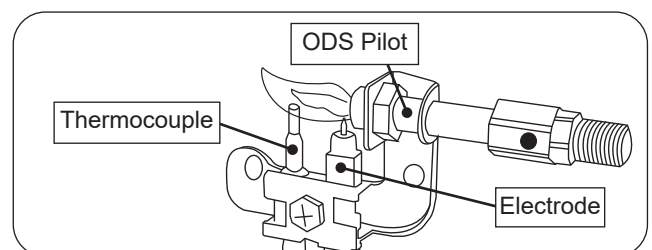

Fig. 27-2 ODS Pilot assembly detail
**Wait five (5) minutes to clear out any gas. Then smell for gas, including near the floor. If you smell gas, STOP! Follow "B" in the safety information above. If you do not smell gas, go to the next step.**
3. Locate the pilot assembly toward the center of the unit, near the main burner (see Fig. 27-2).